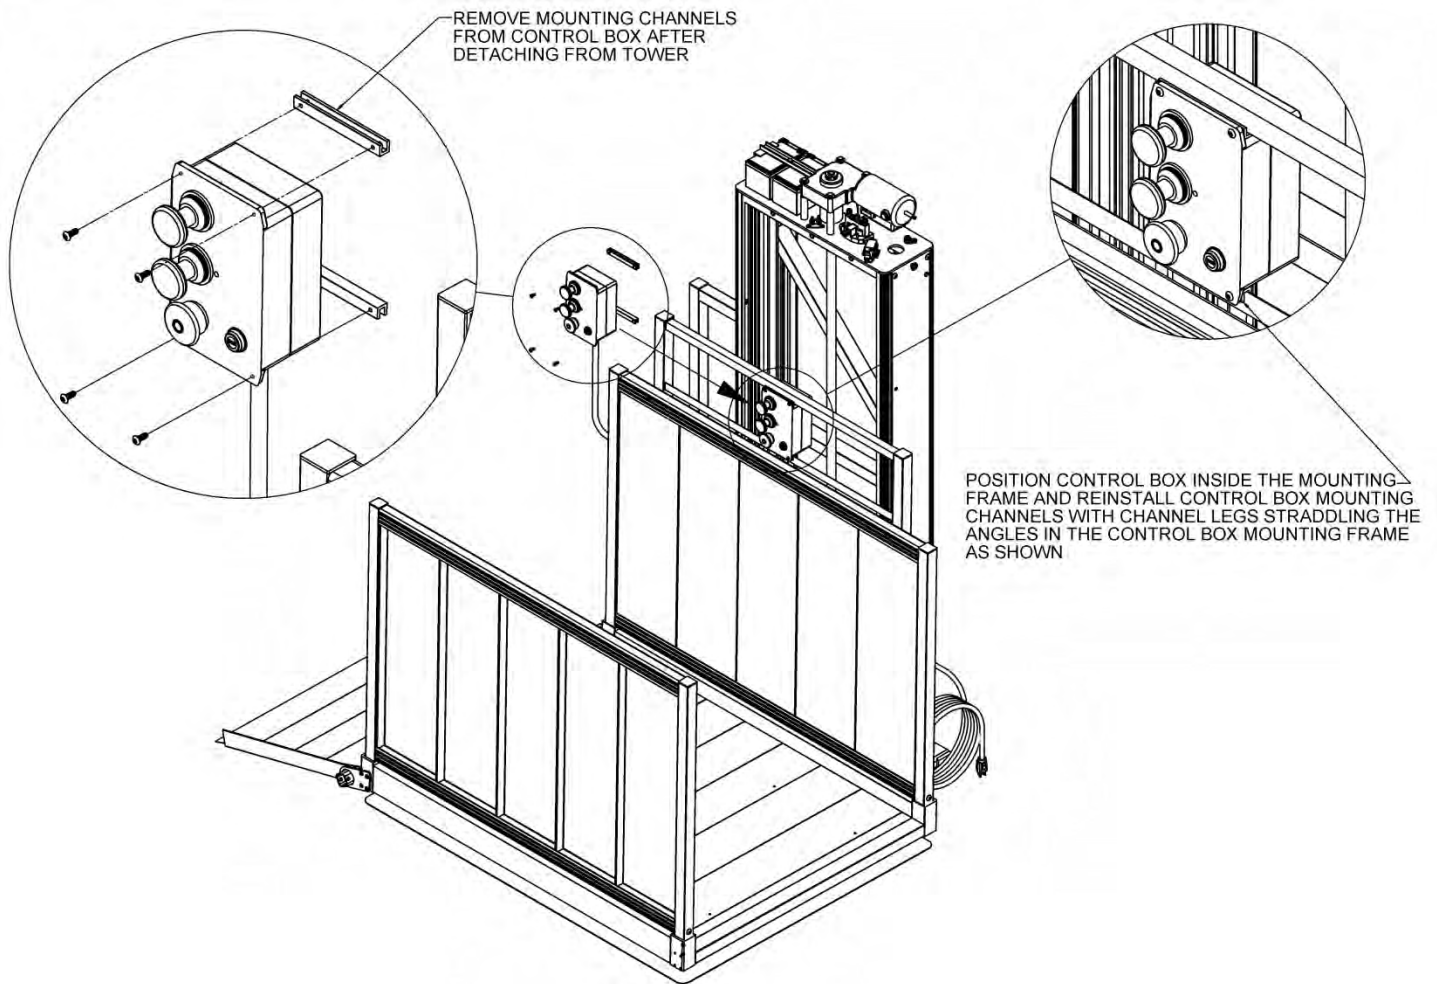

FIG. 4.8
10. Install control box mounting frame to rear guard wall by first removing nuts and bolts from control box mounting frame posts (FIG. 4.8).
11. The control box is secured to inside of tower with zip ties. Locate and cut the zip ties to free the control box (FIG. 4.8).